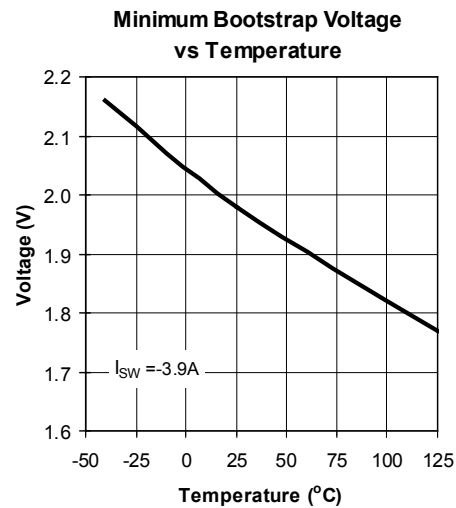

Figure 5. Typical Minimum Bootstrap Voltage required to Saturate Transistor ( $I_{SW} = -3.9A$ )
The BST-SW voltage is supplied by a bootstrap circuit powered from either the input or the output of the converter (Figure 5). To maximize efficiency, tie the bootstrap diode to the converter output if  $V_o > 2.5V$ . Since the bootstrap supply current is proportional to the converter load current (Equation (10), page 14), using a lower voltage to power the bootstrap circuit reduces driving loss and improves efficiency.